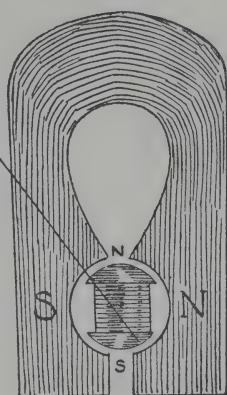

Fig. 51
22. *Volt Meter*.—The volt meter measures the pressure of an electric current. The volt meter which we examined looked outside like our ammeter, and when we removed the face it appeared inside like an ammeter. There was the steel magnet of horse-shoe shape to furnish a field (Fig. 51), and there was an electro-magnet poised between its poles for an armature. The armature in the volt meter, however,